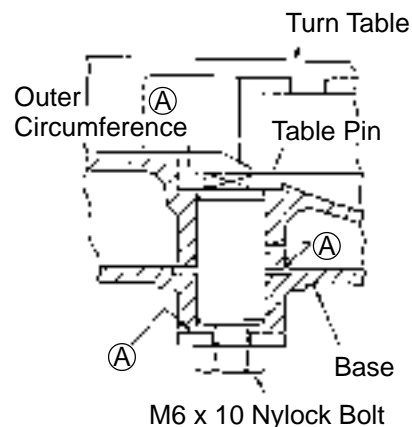

Fig. 5
During assembly, liberally apply grease (HI HON KOYU BC4 is recommended) at the portions marked (A) in Fig. 5.